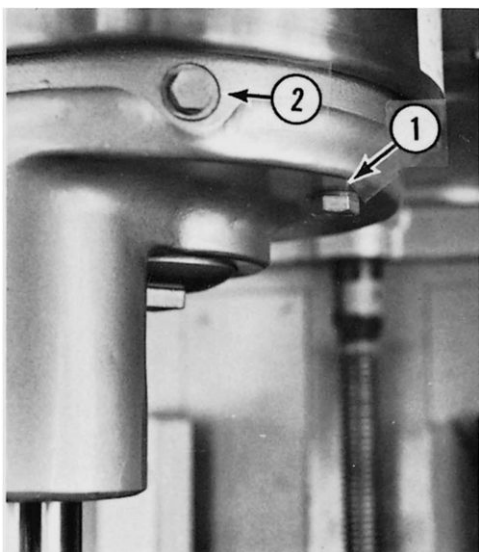

**FIG. 10-22**
F. Inspect the "O" ring (1, Fig. 10-22) on the seal cap, replace if necessary. Install the "O" ring and seal cap.